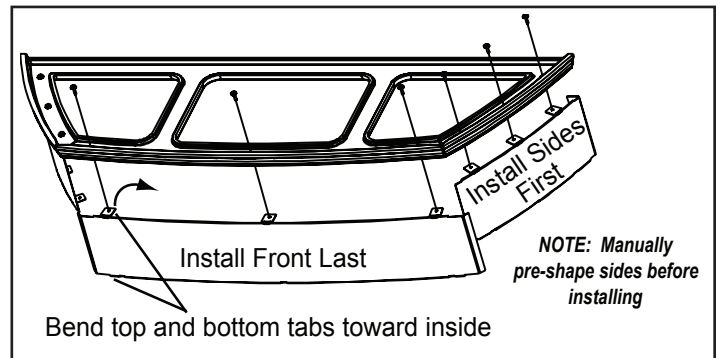

Figure 22.3
4. Lay 1 cast ring face up, which will become the bottom ring when installed. Attach the 2 sides FIRST and then the front piece. **Figure 22.3.**